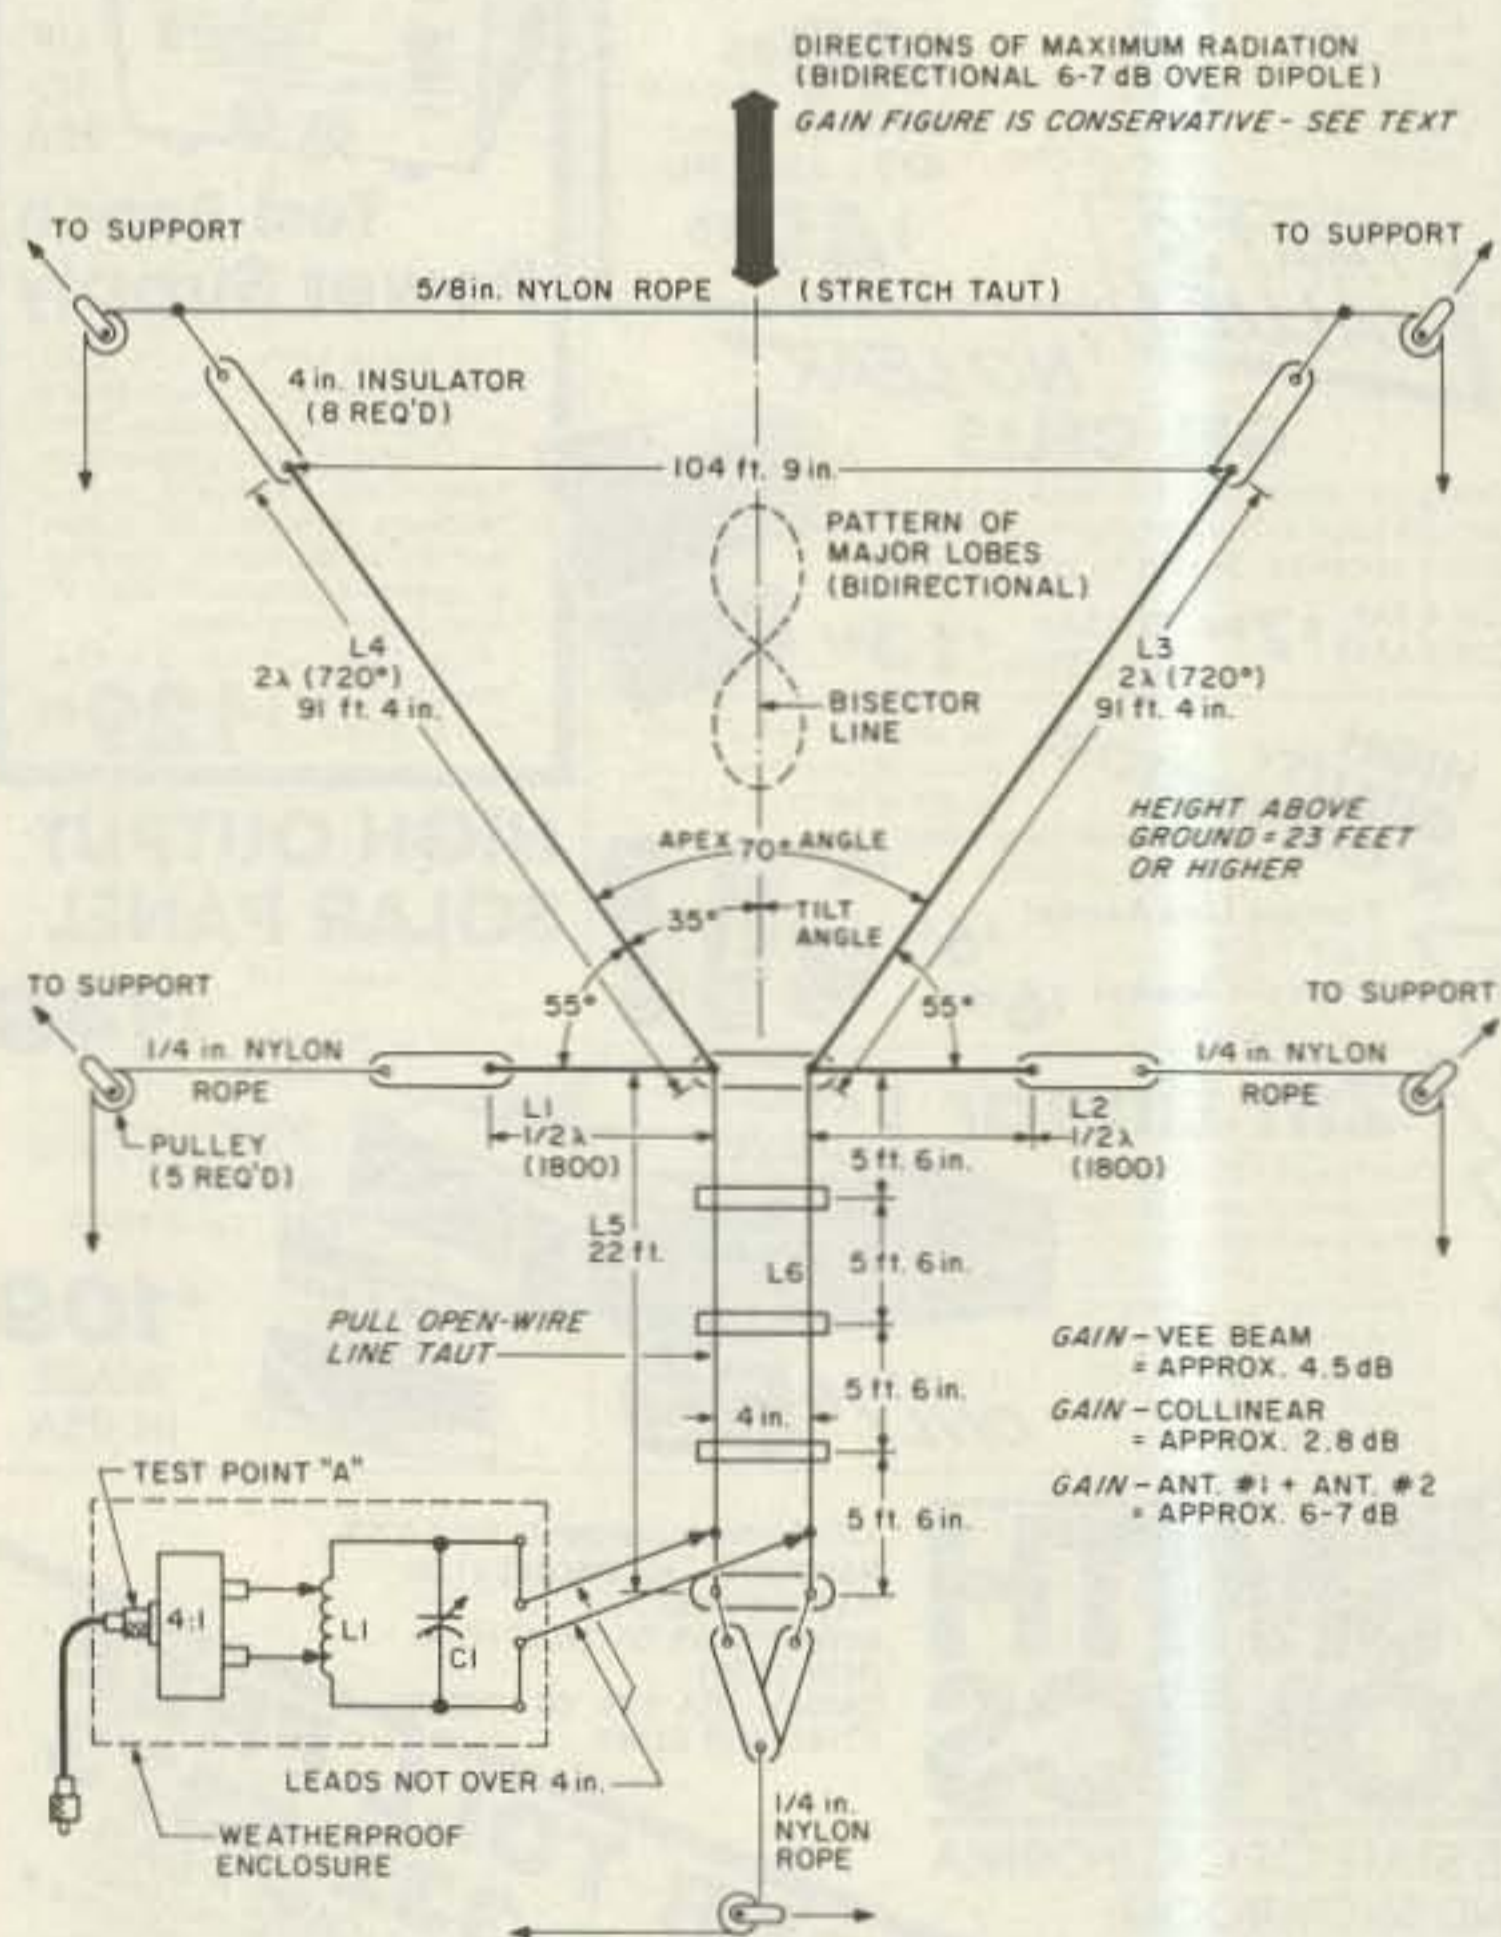

Fig. 1. W6TYH combination array for 15 meters.
There is also a widespread belief that to construct a high-gain wire array one needs a space as large as the Sahara Desert. A short V beam (two wavelengths or so on a leg) will be effective for most DX work on 15 meters, but it is greatly improved by adding a pair of half-wave wings as shown in Fig. 1.
It will be easier for the reader to follow if we describe the characteristics of each section of the ultimate array as we go. The V beam with which we started has two legs, each 91 feet, 4 inches long, as shown in Fig. 1. The correct apex angle for a V with two-wavelength legs is approximately 70° . The distance across the open end of the V is 104 feet, 9 inches. If we bisect the V as indicated by the dashed line in Fig. 1, we divide the triangle (V) into two parts.
The two in-phase, half-wave sections are stretched in a straight line, as shown in Fig. 1, and connected to the V apex feedpoint. These two
When two V sections are stacked, without the broadside elements the bi-directional gain will be increased to about 7 dB in each direction along the bisector. The array normally is fed at test point A, as shown in Fig. 1. If one half of the phasing line (connected between the two apex feedpoints) plus the open-wire feedline are equal to one-half wavelength, as shown, a high impedance will appear at the end of the open-wire line. The parallel-resonant coupling circuit and the toroidal balun complete the transmission-line system between the array and the transmitter.
Now, if we add the four in-phase half-wave linear elements to the V system as shown at test point A in Fig. 1, we add about another 6 dB of bi-directional gain to the system. Since both the V and curtain sections are driven in phase with each other, their respective radiated fields add and produce a total bi-directional gain for the system of about 10 to 11 dB.
The combination array, if built to the specifications given here, is virtually fool-proof and will give a good performance with the dimensions shown in Figs. 1 and 2. However, to hand-hone the array for maximum field intensity, proceed as follows.